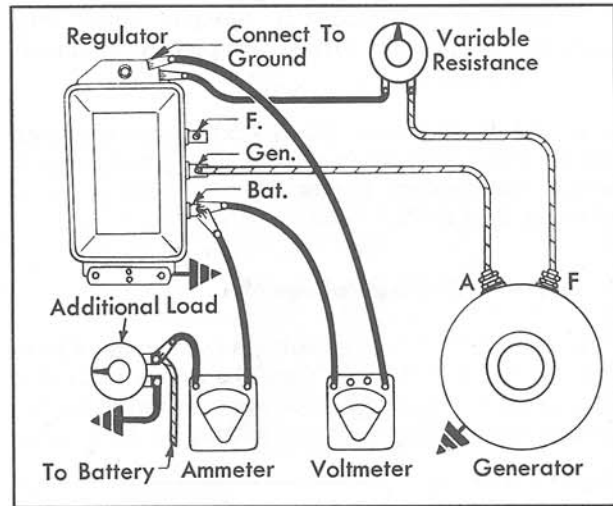

Fig. 12-2 Generator Tests
3. Connect a voltmeter and an ammeter into the charging circuit, as shown in Fig. 12-2.
7. Turn off all accessory load and disconnect any added load as shown in Fig. 12-2.